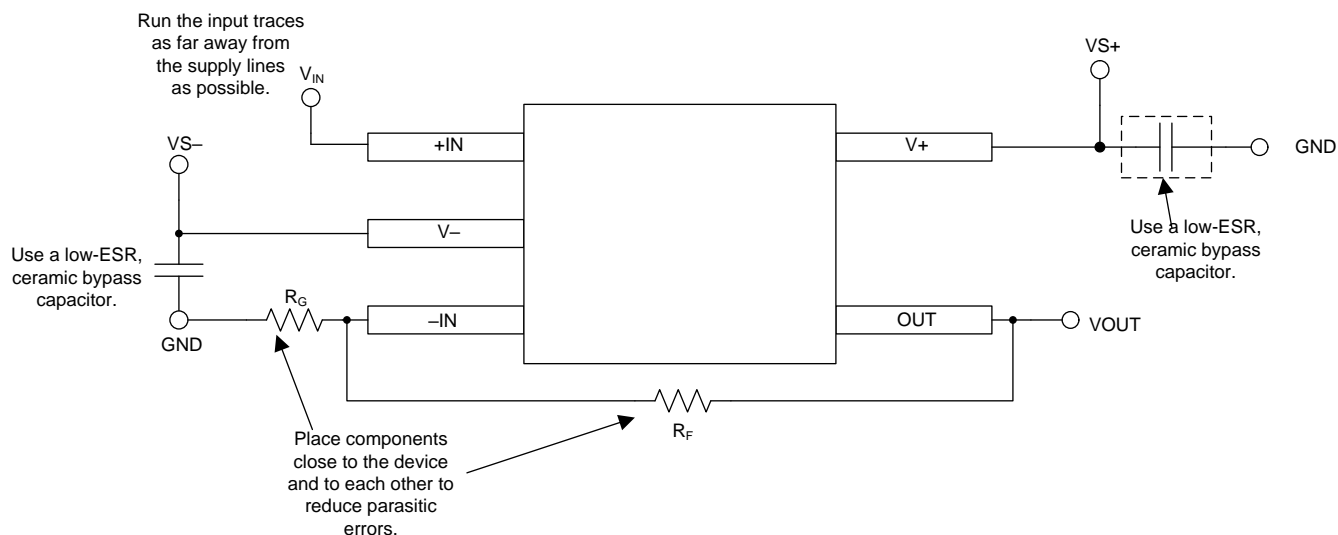

Figure 25. Operational Amplifier Board Layout for Noninverting Configuration
- Place the external components as close to the device as possible. Keep R_F and R_G close to the inverting input in order to minimize parasitic capacitance, as shown in Figure 25.